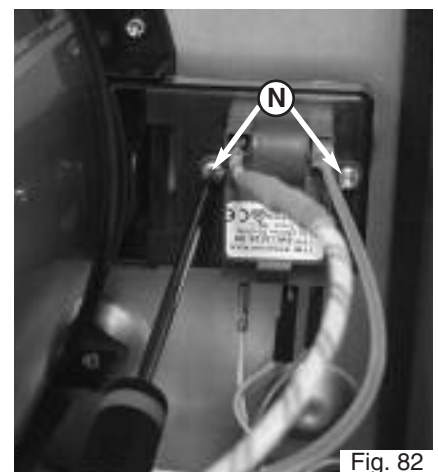

Fig. 82
4. Remove the two screws **N** from the ignitor and remove (Fig. 82);